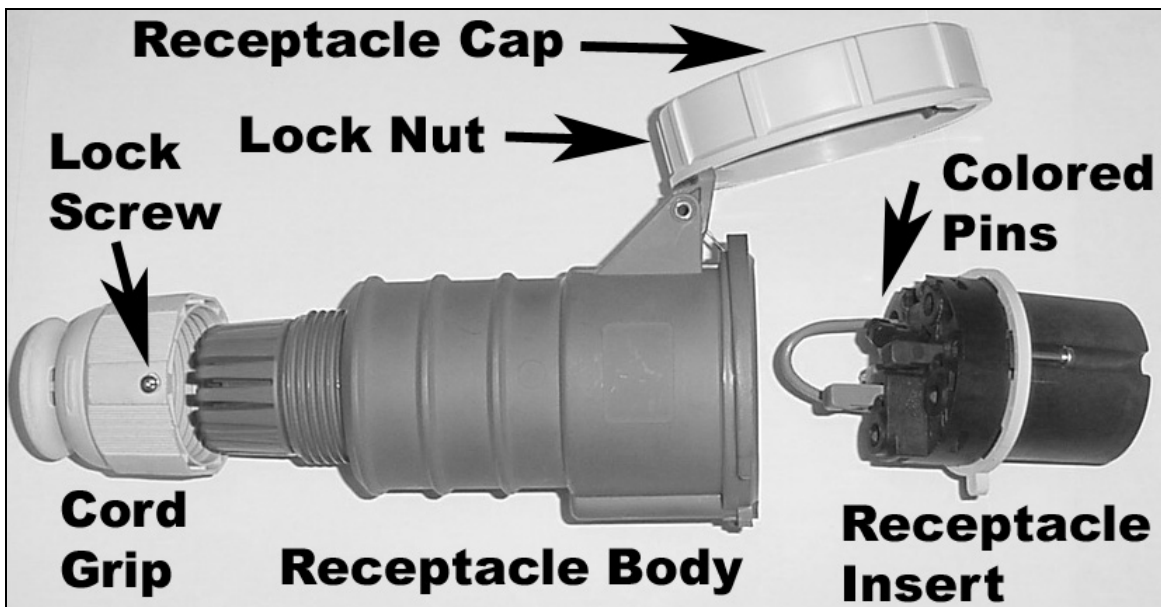

Figure 1: Power receptacle.
1. Open the receptacle cap by unscrewing the lock nut (Figure 1).
3. Remove the cord grip from the receptacle body (see Figure 1).
9. Screw down the cord grip (Figure 1) onto the receptacle body until it is completely sealed against the power cord.